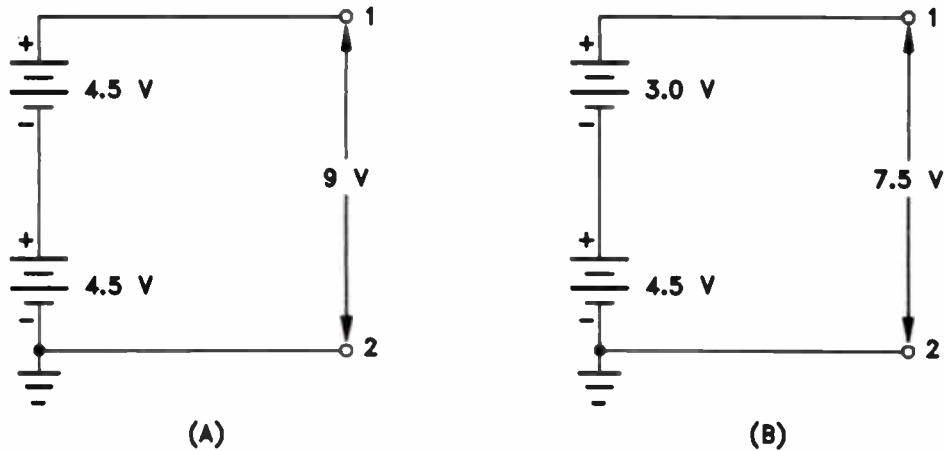

Figure 6. Batteries connected in series so their voltages add.
In Fig.6(A) we have two 4.5 V batteries connected in series aiding. This means that the two voltages add together. Notice that the batteries are connected in the same way as the cells forming each battery are connected. We have, in effect, simply added three additional cells to one
In Fig.6(B), we have batteries with different voltages connected in series aiding. In effect, we have simply added two cells to the 4.5 V battery, so the total voltage is 7.5 volts.
We can connect dc generators in series in the same way as the batteries shown in Figs.6 and 7. If they are connected in series aiding, their voltages add. If they are connected in series opposing, their voltages subtract.
- 3 If a 15 V battery and a 45 V battery are connected in series as in Fig.6(B), what will the voltage be at terminal 1 with respect to ground?